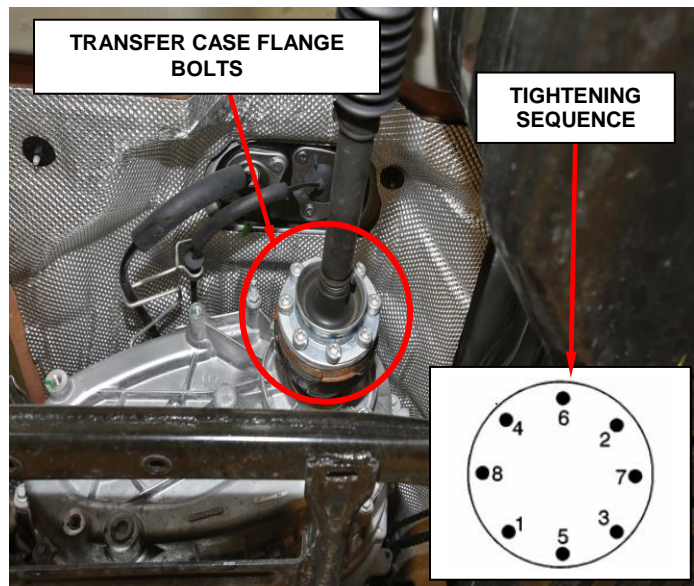

Figure 2 – Transfer Case
3. Remove and **DISCARD** the driveshaft to transfer case flange bolts (Figure 2).
6. Install the **NEW** driveshaft to transfer case flange bolts, tighten the bolts in a star pattern to 39 N·m (29 ft. lbs.) (Figure 2).